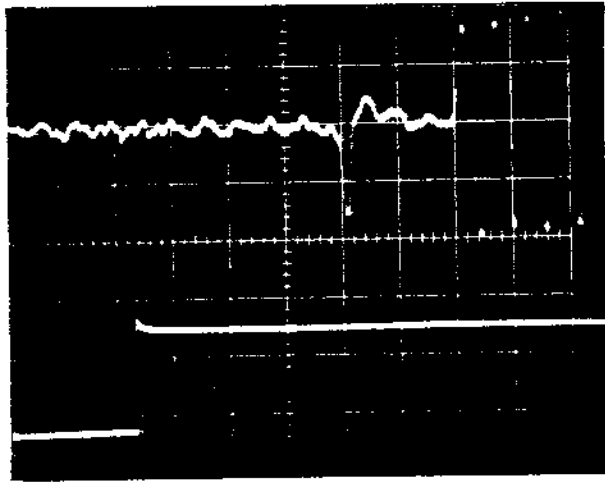
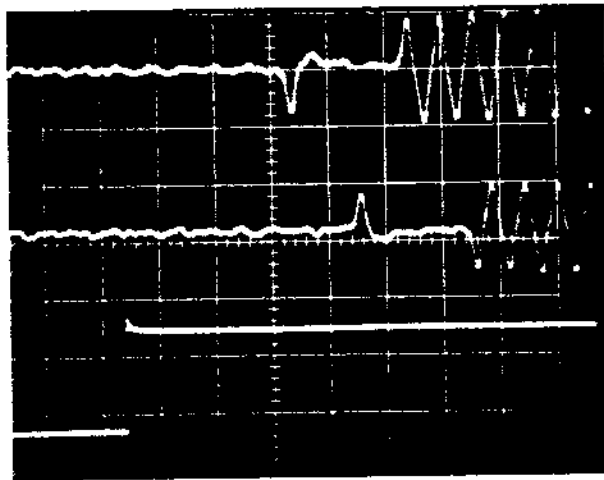

Figure 6-28. Circumferential Alignment, Front Load Drives
Figure 6-29. Compromise Circumferential Alignment, Front Load Drives
*If no waveform is observed at TP19, and no malfunction of the disk drive is suspected, a gross adjustment of the heads is required. To determine which direction the heads must be moved, use the exerciser to reposition the heads to cylinder address 90 and change Channel 1 sensitivity to 0.1v per division. Increment the cylinder address, one cylinder at a time, until the correct waveform is observed at TP19; note this address. Refer to Figure 6-29.*
- (2) Locate the two radial positioning screws on the selected head.
- (2) Set exerciser to position heads to cylinder 095 (190 for 200 tpi).
- (3) Select head 0.
- (4) Observe the waveform at TP19 with respect to the falling edge of the Index signal (time-zero reference).
- (5) The first pulse of the waveform at TP19 should occur  $30 \pm 5 \mu$ sec from the negative-going edge of the Index signal (time-zero reference). See Figure 6-28.
- (6) Select head 1.
- (7) Observe the waveform at TP19. The first pulse should occur  $30 \pm 5 \mu$ sec from the negative-going edge of the Index signal (time-zero reference).
- (8) Alternately switch between heads 0 and 1, and observe the relative displacement of the pulse for each head. The total displacement (separation) between pulse positions must be 10  $\mu$ sec or less. See Figure 6-29.
- (3) Select either head 0 or 1 and, while observing the waveform at TP19, turn the adjusting screw until the first pulse after the falling edge of Index (Channel 2) falls within the  $30 \pm 5 \mu$ sec specification.
- (4) Select the other head and ensure that the specification detailed in Step (3) is met. A compromise adjustment may be required to meet the  $30 \pm 5 \mu$ sec requirement for both heads. See Figure 6-29.
- (5) Turn the Phillips-head screwdriver slightly in the opposite direction of the last turn to cause the adjusting screw to relax the force on the mechanism (i.e., mid-range of the screw backlash).
- (6) Recheck heads 0 and 1 to verify that the measurement is still within tolerance. Repeat Steps (3), (4), and (5) as necessary.
- (7) Remove the Phillips-head screwdriver and bring the disk drive to the SAFE condition, then remove the CE disk cartridge. Return the disk drive to its former configuration. Do not forget to reset the write protect switch if the protect is not desired, and reconnect P206 on the Servo PCBA.